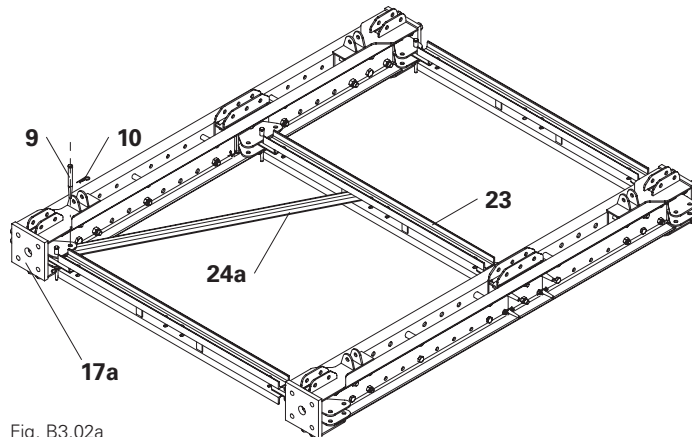

Fig. B3.02a
2. Swivel the diagonal strut VST 200/150 (**24a**)\* as far as possible into the horizontal ledger VST 200 (**23**). (Fig. B3.02a)